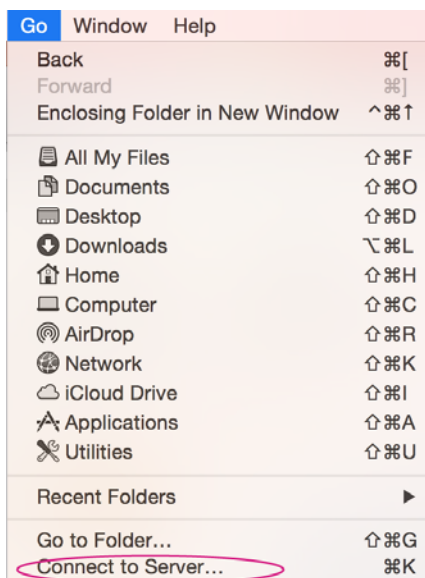

Figure 38 Connecting to LinkIt Smart 7688 from Finder
- 1) Open Finder and in the top menu click Go > Connect to server as shown in Figure 38.